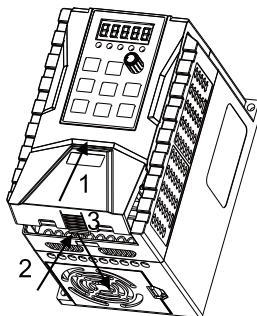

Fig 3-7 Terminal cover installation
B. Method of terminal cover installation is shown as fig 3-7 :install the upper card buckle of terminal cover into the corresponding junction of upper shell.Press the buckle on the side of the cover in direction 2, and finally in direction 3 until you hear "snap" at the joint.